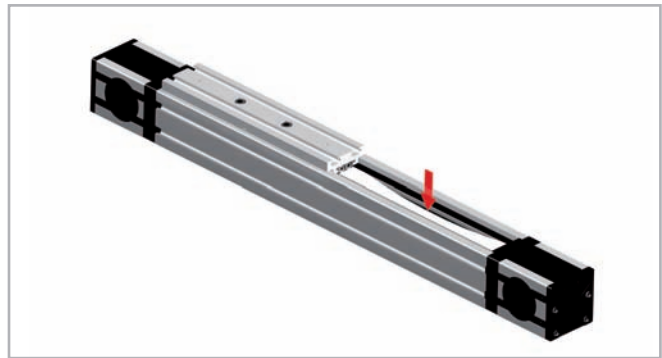

Fig. 72
2. At about half the stroke press and manually move the belt in order to see one of the two rails inside the unit (see Fig. 72).